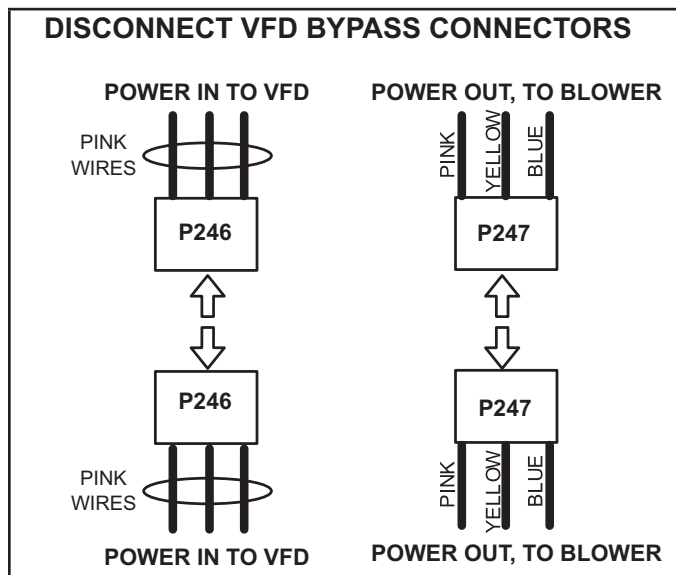

FIGURE 47
- 3 - Disconnect P246 from P246 (power in to VFD) and P247 from P247 (power out to blower). See FIGURE 47.